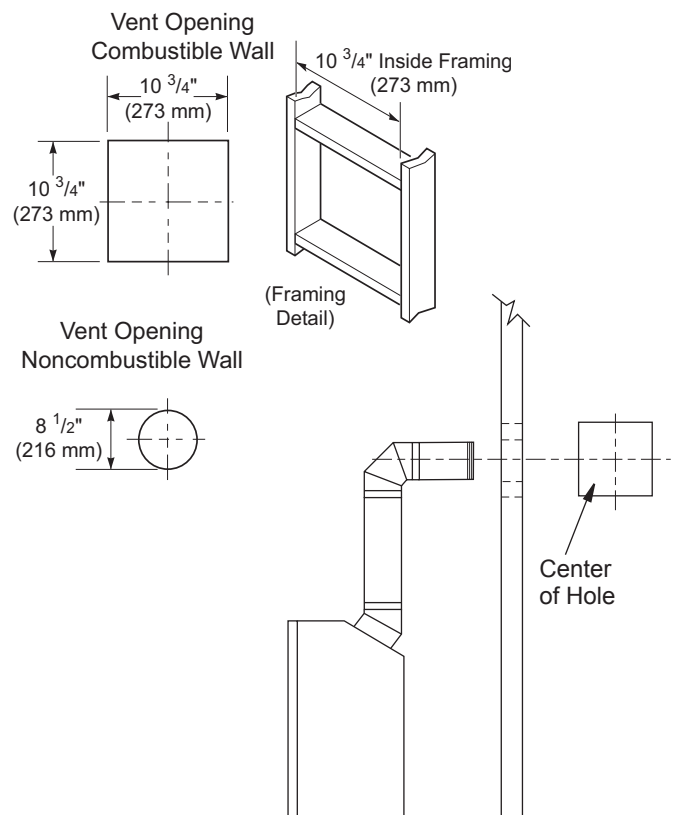
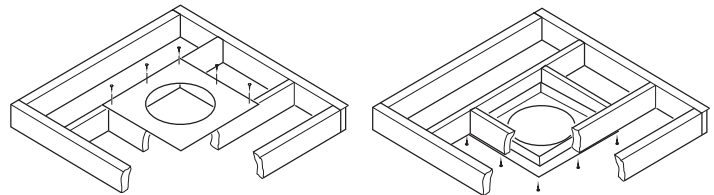

Figure 9 - Vent Opening Requirements
Figure 20 - Installing Firestop
5. Carefully determine the location where the vent pipe assembly will penetrate the outside wall. The center of the hole should line up with the center-line of the horizontal vent pipe. Mark the wall for a 10 ³/₄" x 10 ³/₄" square hole. Cut and frame the square hole in the exterior wall where the vent will be terminated. If the wall being penetrated is constructed of noncombustible material, such as masonry block or concrete, a 8 ¹/₂" hole with zero clearance is acceptable (see Figure 9).
1. Cut a 10 3/4" square hole in the ceiling using the locating hole as a center point. The opening should be framed to 10 3/4" x 10 3/4" (273mm x 273mm) inside dimensions, as shown in Figure 9 on page 8 using framing lumber the same size as the ceiling joists. If the area above the ceiling is an insulated ceiling or a room, nail firestop from the top side. This prevents loose insulation from falling into the required clearance space. Otherwise, install firestop below the framed hole. The firestop should be installed with no less than three nails per side (see Figure 20).
3. Cut a hole in the roof using the locating hole as a center point. (Cover any exposed open vent pipes before cutting hole in roof.) The 10 3/4" x 10 3/4" hole must be measured on the horizontal; actual length may be larger depending on the pitch of the roof. There must be a 1" clearance from the vent pipe to combustible materials. Frame the opening as shown in Figure 9, page 8.